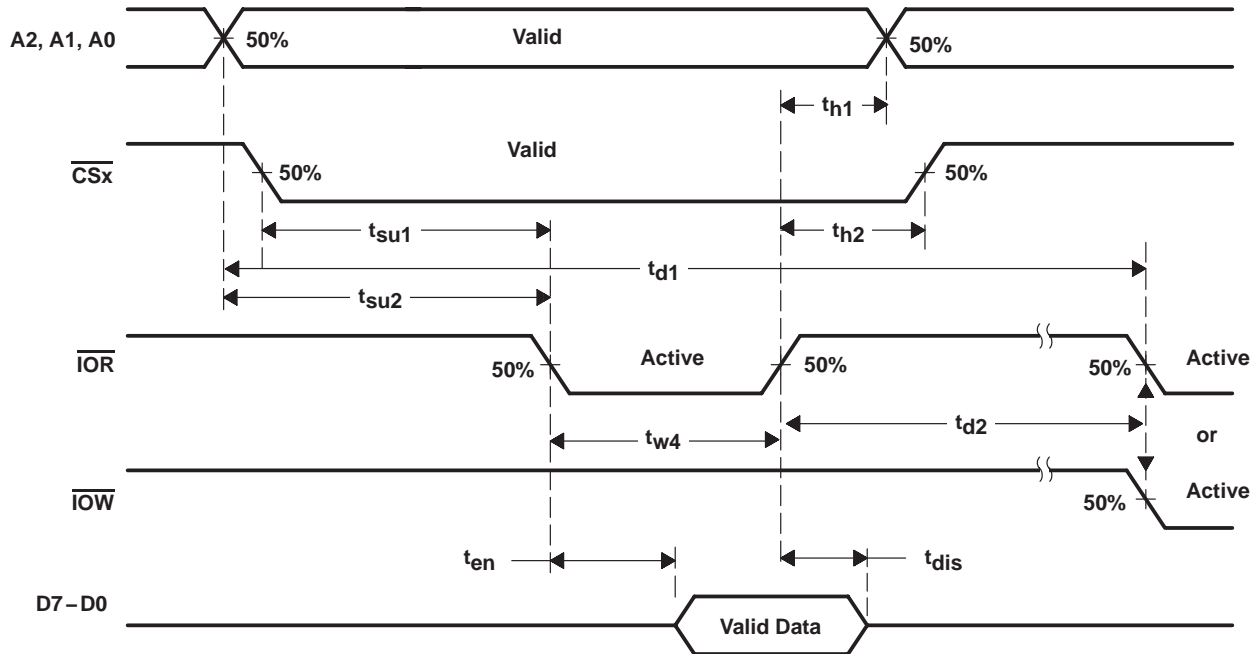

Figure 4. Read Cycle Timing Waveforms
**read cycle timing requirements over recommended ranges of operating free-air temperature and supply voltage (see Figure 4)**
**read cycle switching characteristics over recommended ranges of operating free-air temperature and supply voltage, CL = 100 pF (see Note 4 and Figure 4)**